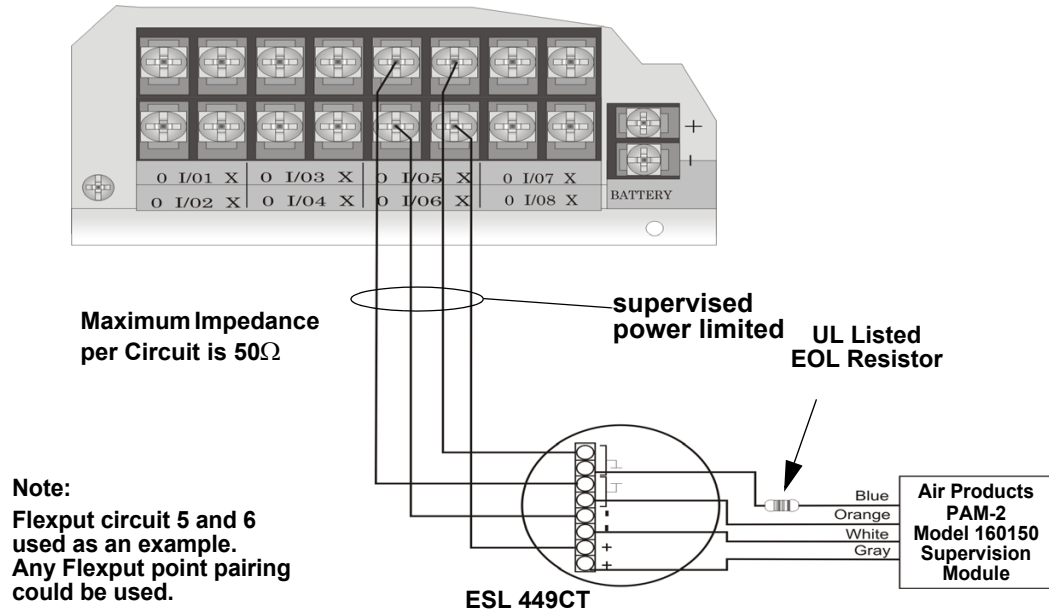
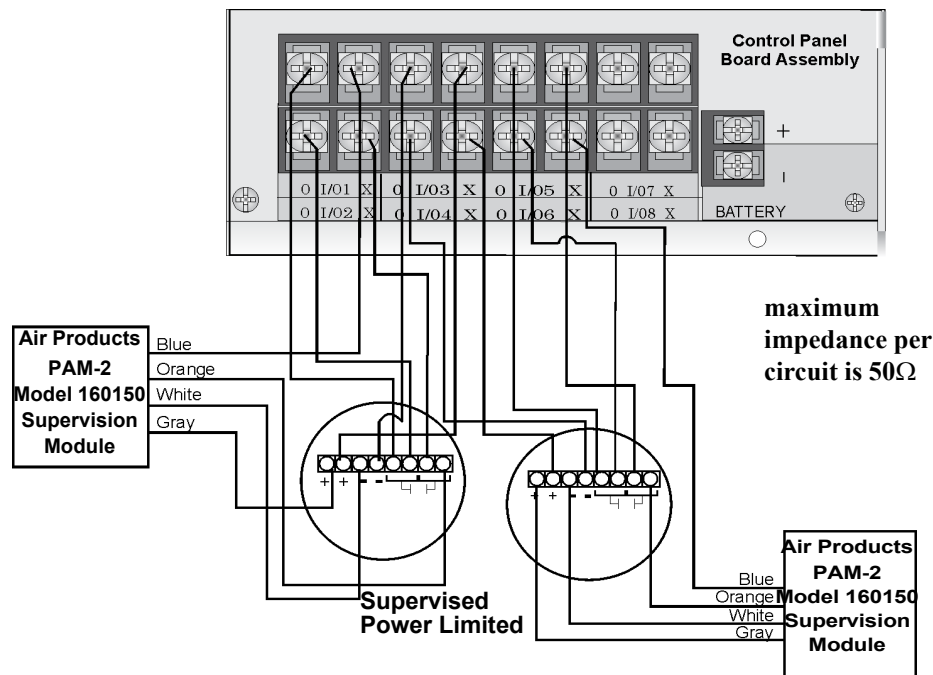

Figure 4-38 Class B 4-Wire Smoke Detector Connections
Figure 4-39 Class A 4-Wire Smoke Detector Connections
Any compatible UL listed four-wire smoke detector can be used with the control panel (see Appendix A for list of compatible smoke detectors). Figure 4-38 and Figure 4-39 illustrate how to connect a UL listed four-wire detector to the control panel.
Figure 4-38 illustrates how to install a 4-wire Class B smoke detector.
2. Each Class B loop input is paired with a unique power source as shown in Figure 4-38.
Note: In programming any point that uses multiple Flexput circuits, the lowest Flexput circuit number is used to refer to the circuit pair. For example, Figure 4-38 uses both Flexput circuit 5 and 6, so in programming it would be referred to as point 5.
Figure 4-39 illustrates how to install 4-wire Class A detectors.
2. Smoke power is supplied to each Class A loop as shown in Figure 4-39.
Note: In programming any point that uses multiple Flexput circuits are always referred to as the lowest Flexput circuit number used. For example, Figure 4-39 uses Flexput circuits 1, 2, 3 together and 4, 5, 6 together. In programming (1, 2, 3) would be referred to as point 1, and (4, 5, 6) would be referred to as point 4.